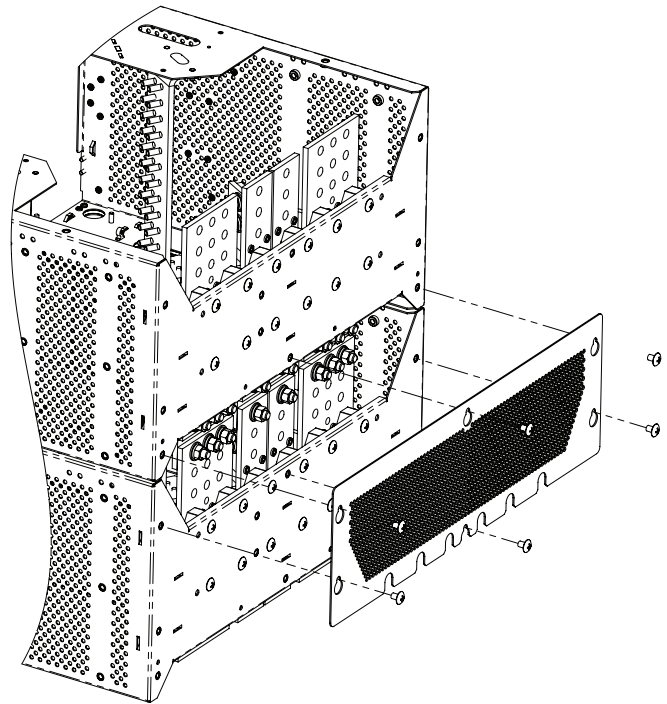

Figure 21 — BDFB back cover installation
- Install the back cover (Figure 21) on the lower BDFB (cover ships loose with the BDFB).